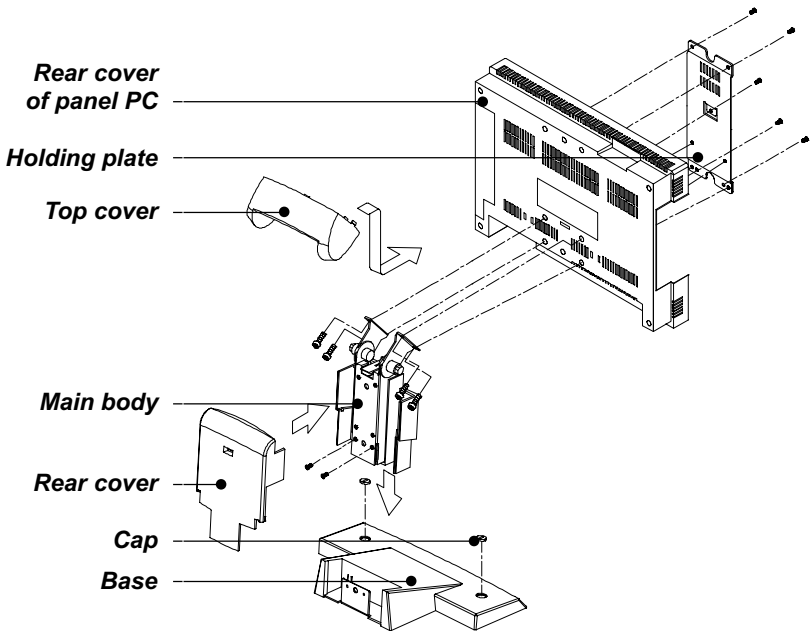

Figure E-3: Desktop stand mounting
2. Attach the holding plate of the stand to the inside of the rear cover of the panel PC using the five screws provided. (See Fig. E-3.)